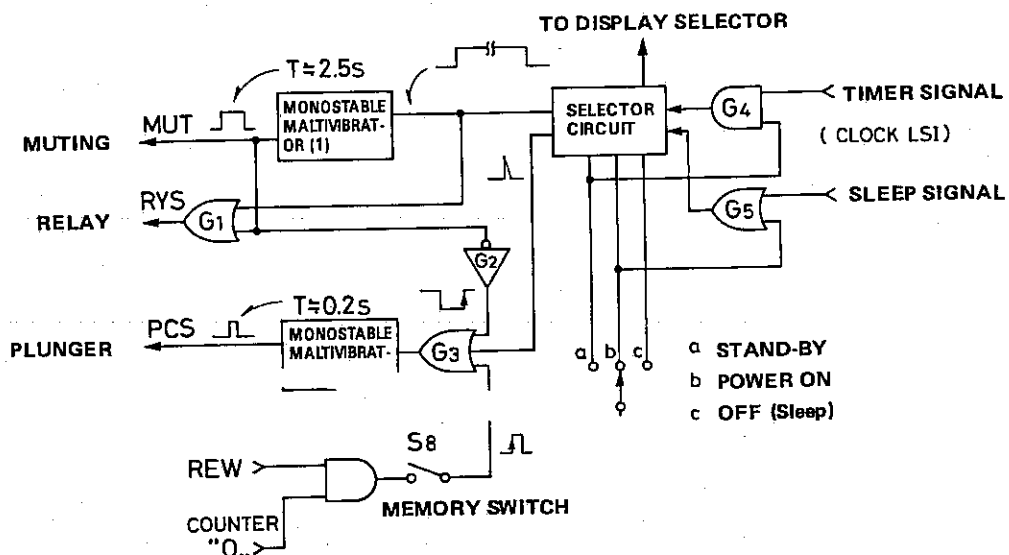
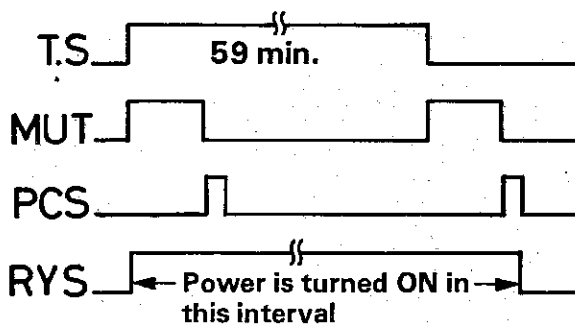
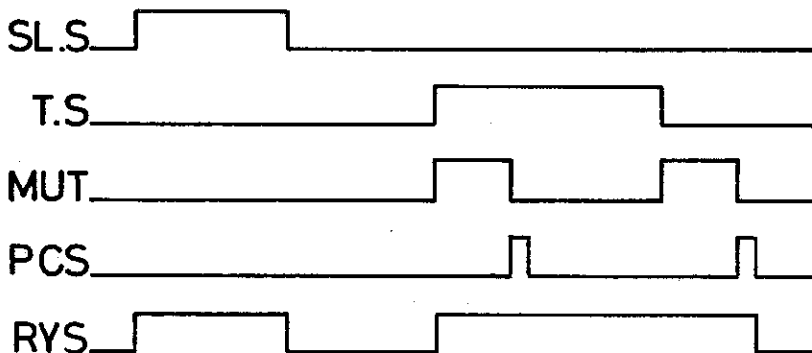

Fig. 8
Fig. 9
Fig. 11
Figure 8 shows the block diagram of the control circuits, and figures 9 through 11 show the time chart for each of the control circuits. The timer signal and the sleep signal in Fig. 8 are signals from the clock LSI, each generated at the time of the respective operation. The switch S7 is used for selecting "timer stand-by", "sleep shut-off," etc.
- a --- Figure 9 shows the time chart for the timer stand-by operation. When the timer signal is generated at the set time of the timer, the monostable multivibrator I will be triggered to generate the muting signal (MUT) for about three seconds. Near the end of this period, the monostable multivibrator II will be triggered to generate the plunger driving signal (PCS), and start the stand-by operation. Before this happens, the relay driving signal (RYS) is generated at the same time with the generation of the timer signal, and turns the power ON. The timer signal will last for 59 minutes. At the end of this period, as at the beginning, the muting signal (MUT) will be generated, followed by generation of the plunger driving signal (PSC). This causes the mechanism to stop. The relay will be turned OFF immediately after.
- c --- Figure 11 shows the time chart for the case of setting S7 at the stand-by position and using the sleep timer. This chart differs from Figs. 9 and 10 in that neither the muting signal nor the plunger driving signal is generated at the time of generation of the sleep signal.